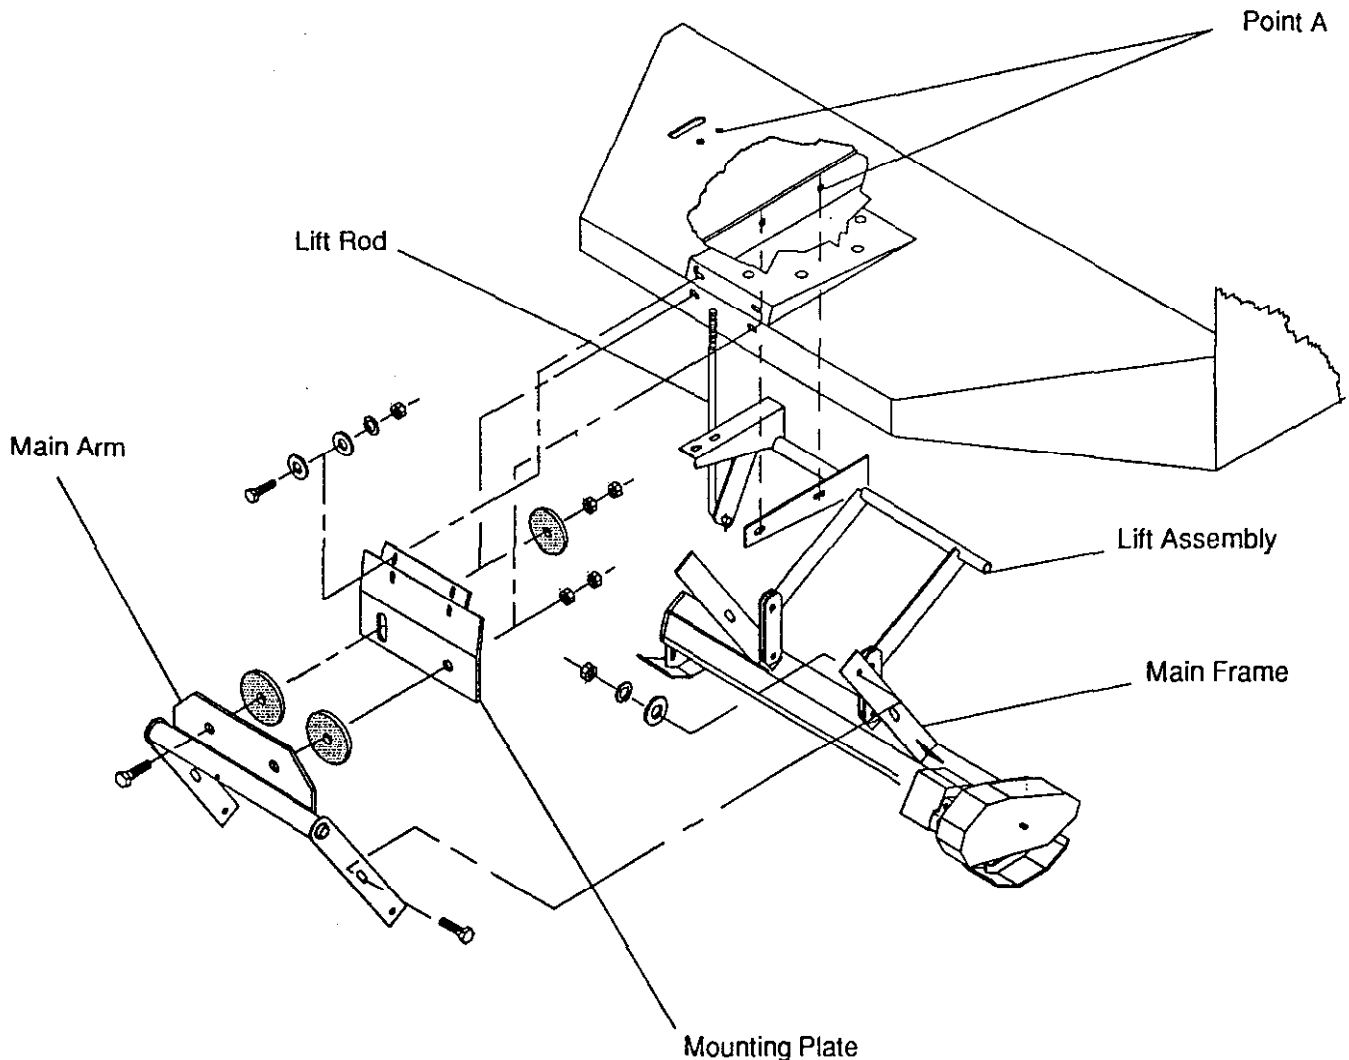

Figure 1
ATTACH THATCHER TO SWEEPER (Fig. 1 & 2)
4. Attach the main arm to the main frame as shown in Fig. 1, using the 1/2" x 1-1/2" bolts. Secure nuts.
5. Push the threaded end of the lift rod through the slot in the main frame. See Fig. 1.